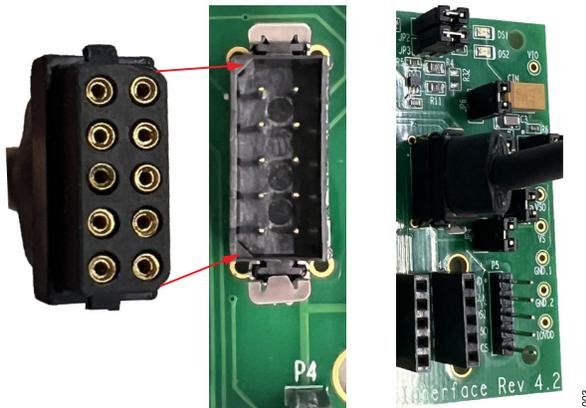
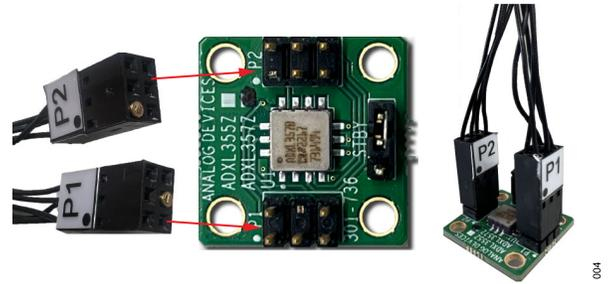

Figure 3. Connecting the SDP Interface to the EVAL-ADXL35xZ: SDP Interface Side
Figure 4. Connecting the SDP Interface to the EVAL-ADXL35xZ: EVAL-ADXL35xZ Side
- ▶ One end of the cable features a Harwin connector designed to link with the SDP interface board, as illustrated in Figure 3.
- ▶ The other end of the cable has two 3 × 2 pin header connectors, which are used for connecting to the EVAL-ADXL35xZ as shown in Figure 3.
- ▶ For a visual guide on correctly aligning the cable on both the SDP interface side and the EVAL-ADXL35xZ side, check the red arrows in Figure 3 and Figure 4, respectively.